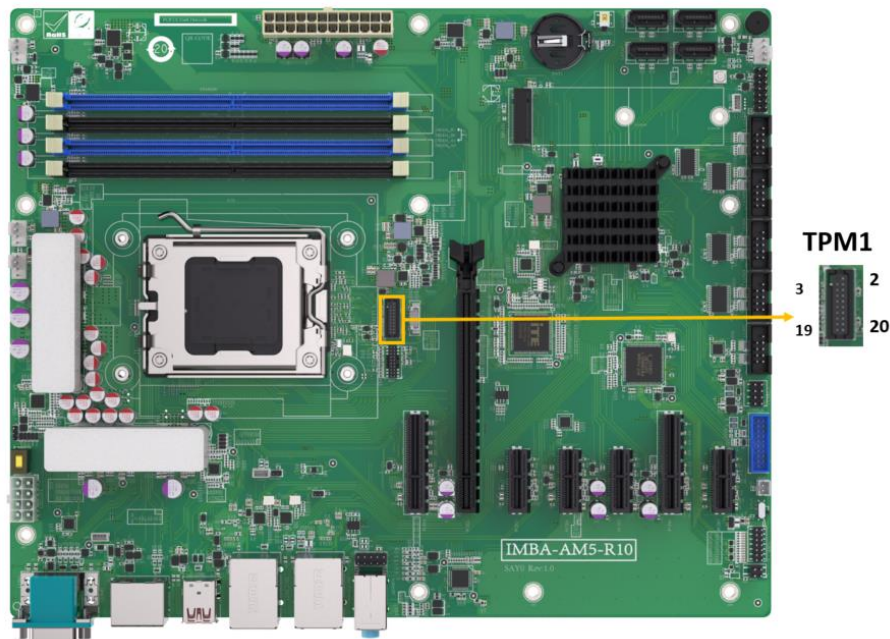

Figure 4-17: Trusted Platform Module Connector Location
- CN Location:** See **Figure 4-17**